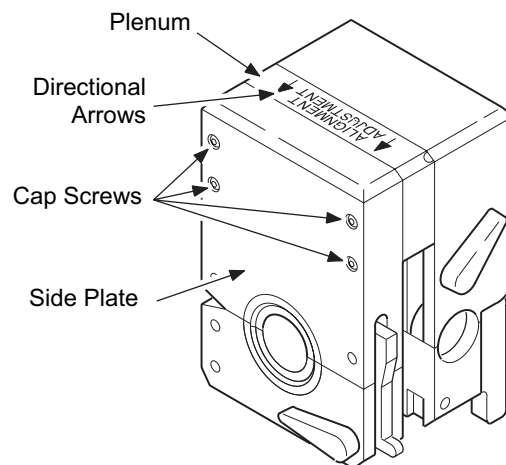

Figure 16 Loosening the Side Plate
1. Turn the fixture block over and locate the directional arrows on the plenum. The arrows point to the appropriate side plate. See Figure 16.
2. Using the provided 3/32 in. hex wrench, unscrew the four cap screws in the appropriate side plate just enough to loosen it from the plenum. See Figure 16 to locate the appropriate side plate.